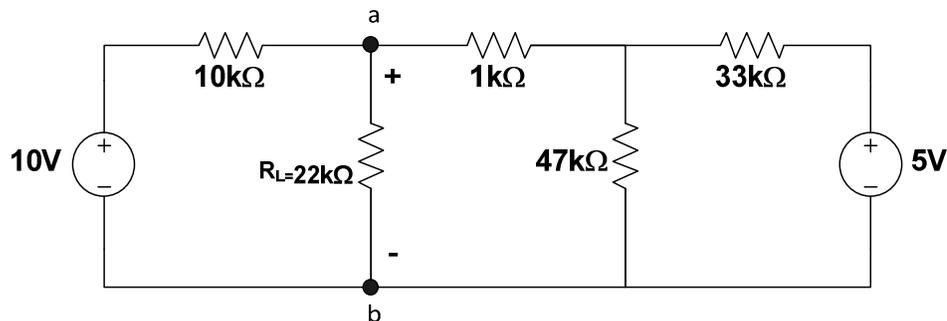

Fig. 1
Connect the circuit as shown in figure 1.
6. Reconnect the circuit as shown in Figure 1, but replace the  $22\text{ K}\Omega$  resistor between A and B and by a variable resistor (i.e.  $R_L$  in this case is the variable resistor).